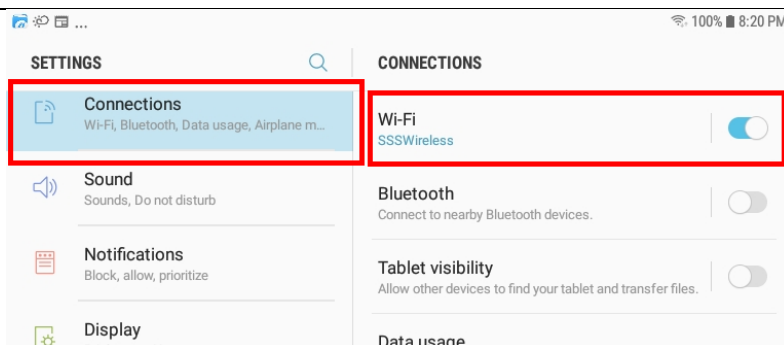

Figure 13 The Wi-Fi Connection page in the Android Settings app
- (3) Make sure power is on, the WFD-27 is connected to the track and there is a locomotive on the track with a DCC address that you know. Both the red power LED should and the blue DCC indicator LED should be alight constantly.
- (4) Tap the Home button, and run the settings app on your Android phone.
- (5) Tap Connections on the left, then Wi-Fi on the right as Figure 13 (This may vary with different versions of Android).